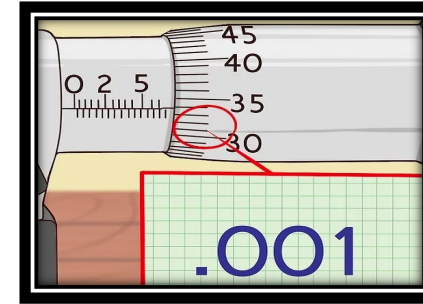

Fig 4
4. Find the number and corresponding marking on the thimble scale closest to but underneath the measurement line on the stock. If it's closest to 1, then it would be .001. (FIG 4)